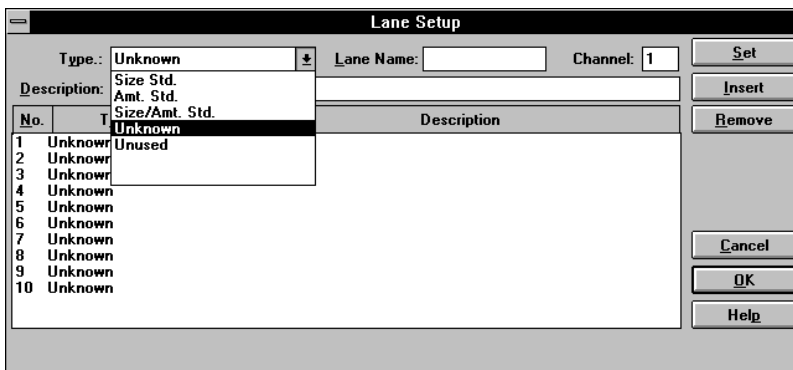

Figure 6-4. Selecting the standards type.
1. Click the down-arrow button (▾) next to the **Type** box, and then select among the choices on the list (figure 6-4).